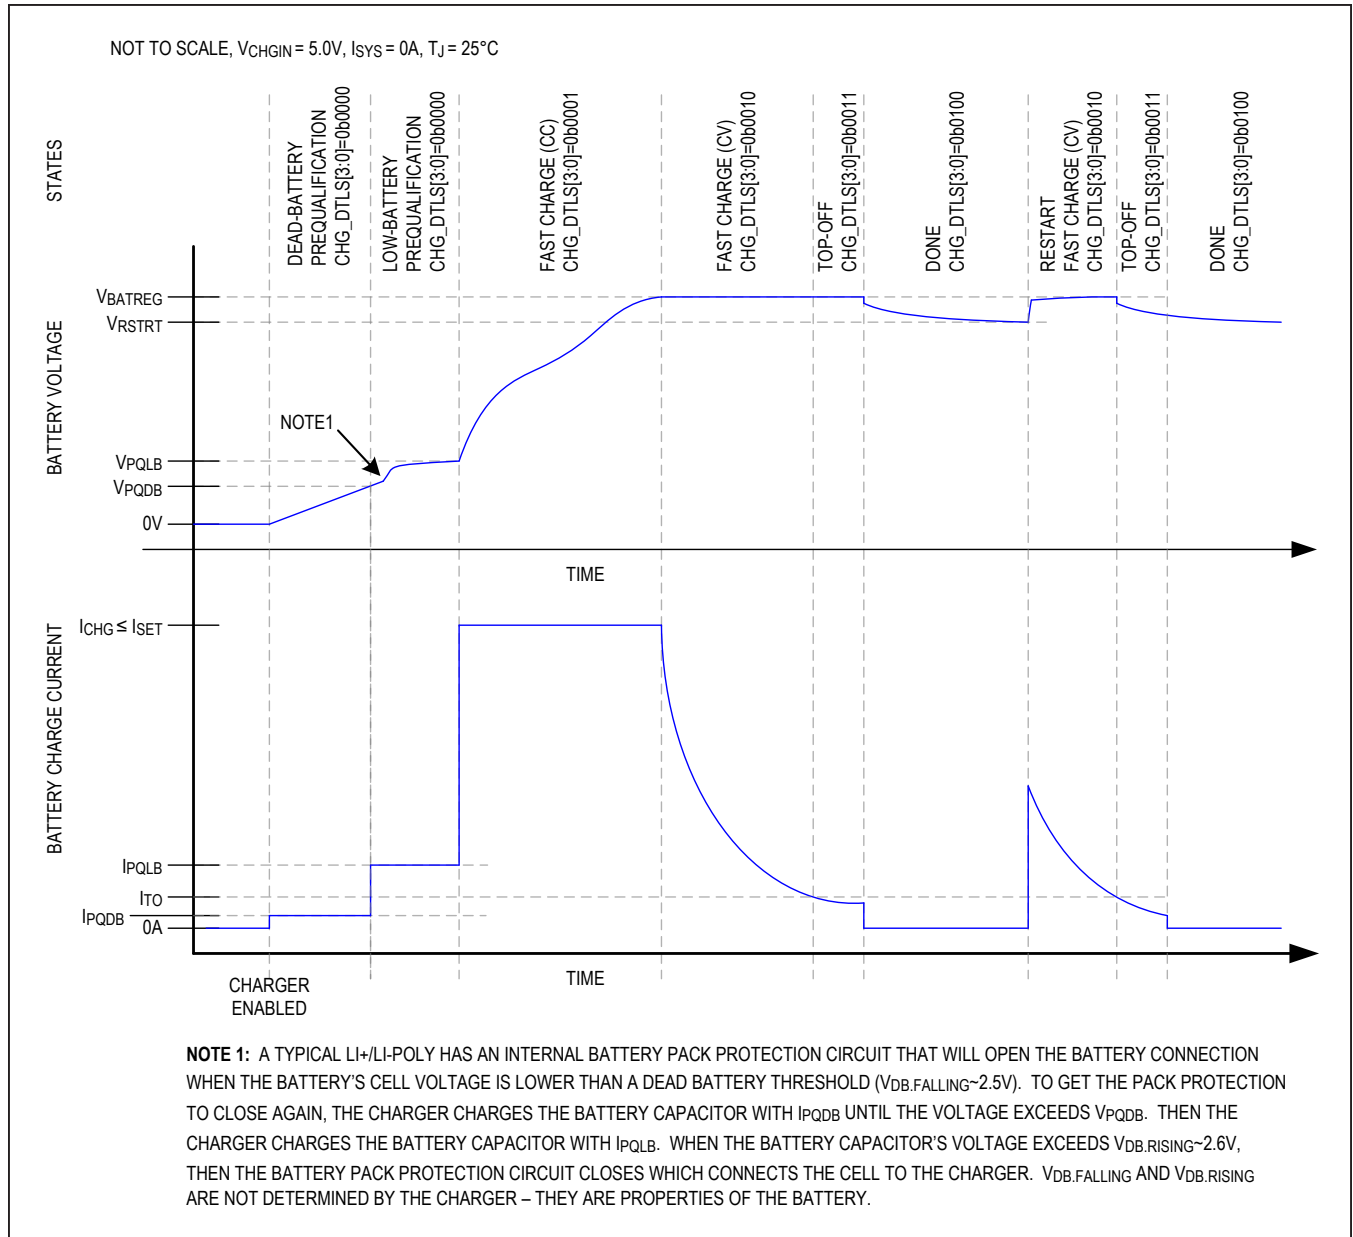
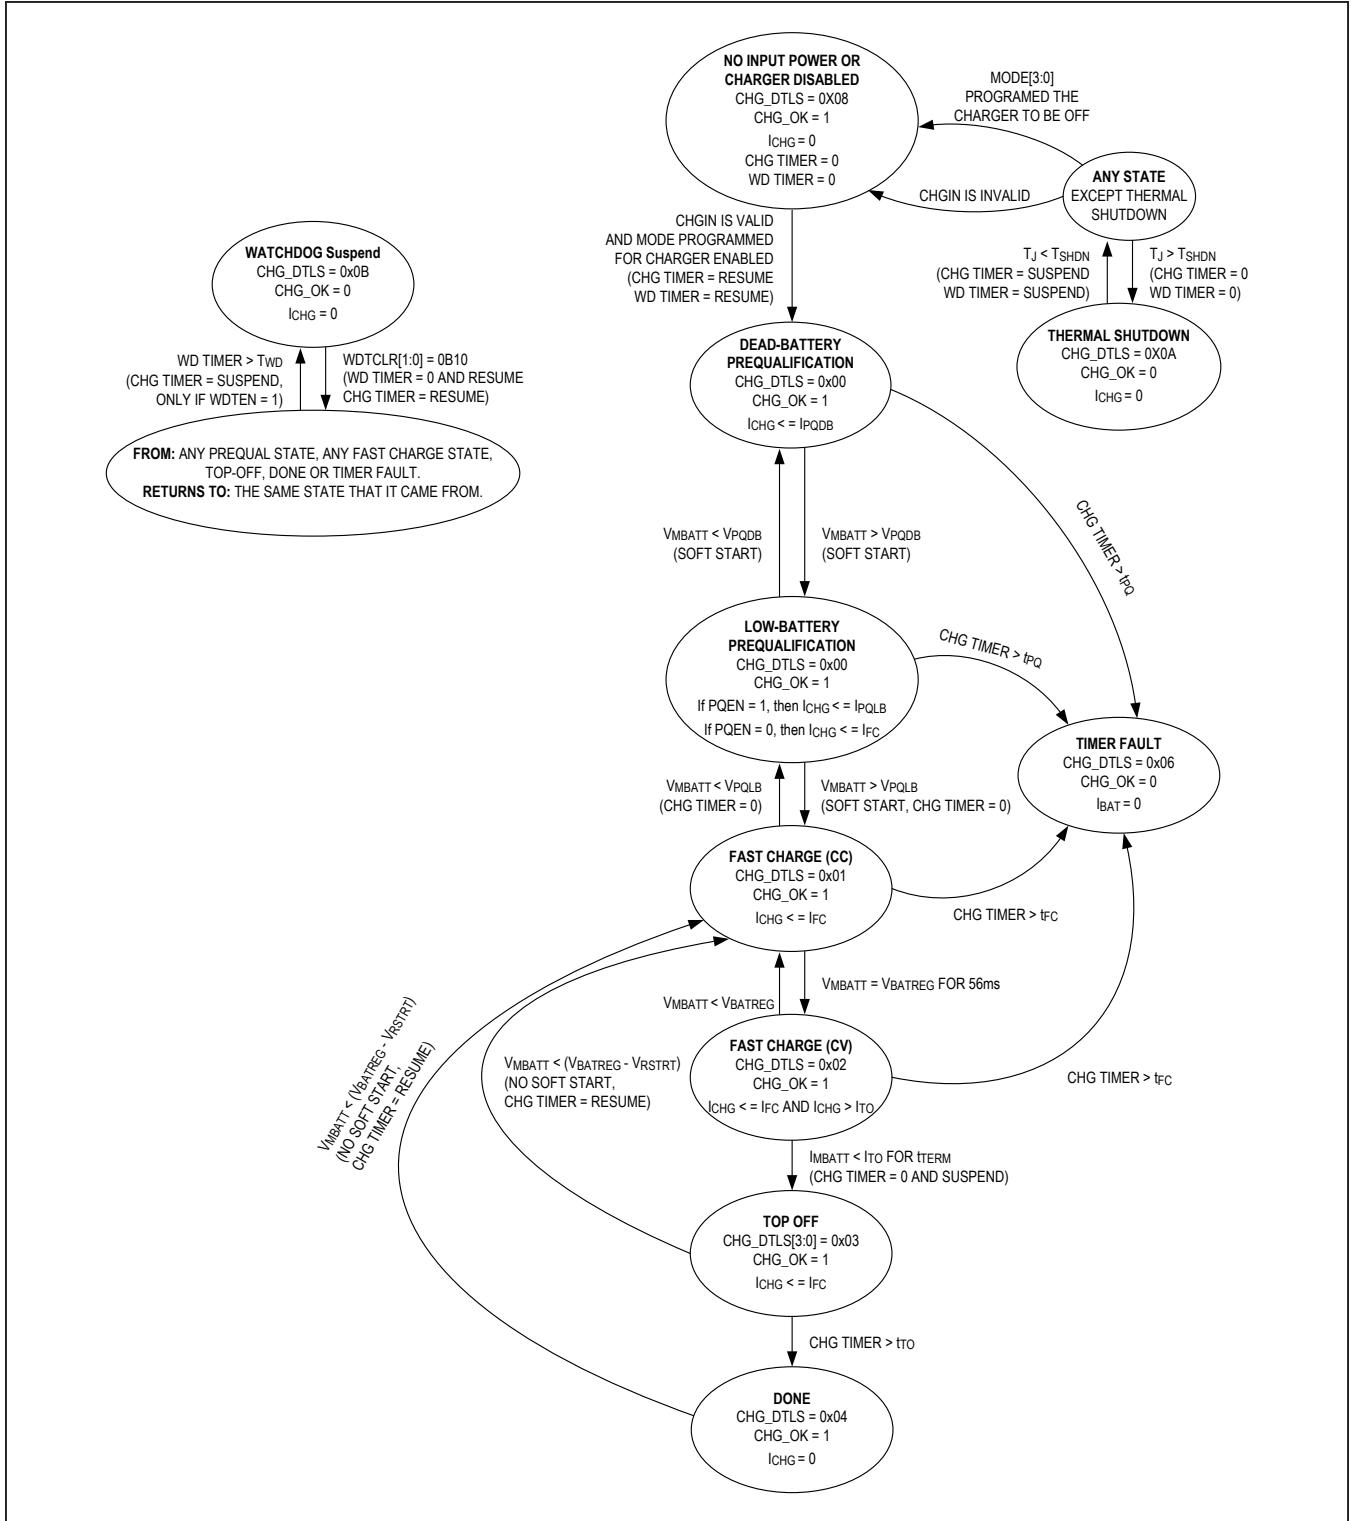

Figure 6. Li+/Li-Poly Charge Profile
Figure 7. Charger State Diagram
The MAX77818 utilizes several charging states to safely and quickly charge batteries as shown in Figure 6 and Figure 7. Figure 6 shows an exaggerated view of a Li+/Li-Poly battery progressing through the following charge states when there is no system load and the die and battery are close to room temperature: daed battery/low battery prequalification → fast-charge → top-off → done.
From any state shown in Figure 7 except thermal shutdown, the no input power or charger disabled state is entered whenever the charger is programmed to be off or the charger input CHGIN is invalid. After being in this state for  $t_{SCIDG}$ , a CHG\_I interrupt is generated, CHG\_OK is set, and CHG\_DTLS[3:0] is set to 0x08.
As shown in Figure 7, the dead battery prequalification state occurs when the main battery voltage is less than  $V_{PQDB}$ . After being in this state for  $t_{SCIDG}$ , a CHG\_I interrupt is generated, CHG\_OK is set, and CHG\_DTLS[3:0] is set to 0x00. In the dead battery prequalification state, charge current into the battery is  $I_{PQDB}$ .
As shown in Figure 7, the fast-charge constant current (CC) state occurs when the main battery voltage is greater than the low battery prequalification threshold and less than the battery regulation threshold ( $V_{PQLB} < V_{BATT} < V_{BATREG}$ ). After being in the fast-charge CC state for  $t_{SCIDG}$ , a CHG\_I interrupt is generated, CHG\_OK is set and CHG\_DTLS[3:0] = 0x01.
As shown in Figure 7, the fast-charge constant voltage (CV) state occurs when the battery voltage rises to  $V_{BATREG}$  from the fast-charge CC state. After being in the fast-charge CV state for  $t_{SCIDG}$ , a CHG\_I interrupt is generated, CHG\_OK is set, and CHG\_DTLS[3:0] = 0x02.
In the fast-charge CV state, the battery charger maintains  $V_{BATREG}$  across the battery and the charge current is less than or equal to  $I_{FC}$ . As shown in Figure 6, charger current decreases exponentially in this state as the battery becomes fully charged.
As shown in Figure 7, the top-off state can only be entered from the fast-charge CV state when the charger current decreases below  $I_{TO}$  for  $t_{TERM}$ . After being in the top-off state for  $t_{SCIDG}$ , a  $CHG\_I$  interrupt is generated,  $CHG\_OK$  is set, and  $CHG\_DTLS[3:0] = 0x03$ . In the top-off state, the battery charger tries to maintain  $V_{BATREG}$  across the battery and typically the charge current is less than or equal to  $I_{TO}$ .
As shown in Figure 7, the battery charger enters its done state after the charger has been in the top-off state for  $t_{TO}$ . After being in this state for  $t_{SCIDG}$ , a  $CHG\_I$  interrupt is generated,  $CHG\_OK$  is cleared, and  $CHG\_DTLS[3:0] = 0x04$ .
The battery charger provides both a charge timer and a watchdog timer to ensure safe charging. As shown in Figure 7, the charge timer prevents the battery from charging indefinitely. The time that the charger is allowed to remain in each of its prequalification states is  $t_{PQ}$ . The time that the charger is allowed to remain in the fast-charge CC and CV states is  $t_{FC}$ , which is programmable with  $FCHGTIME$ . Finally, the time that the charger is in the top-off state is  $t_{TO}$ , which is programmable with  $TO\_TIME$ . Upon entering the timer-fault state, a  $CHG\_I$  interrupt is generated without a delay,  $CHG\_OK$  is cleared, and  $CHG\_DTLS = 0x06$ .
In the timer-fault state the charger is off. The charger can exit the timer-fault state by programming the charger to be off and then programming it to be on again through the  $MODE$  bits. Alternatively, the charger input can be removed and reinserted to exit the timer-fault state. See the any state bubble in the upper right of Figure 7.
The battery charger provides both a charge timer and a watchdog timer to ensure safe charging. As shown in Figure 7, the watchdog timer protects the battery from charging indefinitely in the event that the host hangs or otherwise cannot communicate correctly. The watchdog timer is disabled by default with  $WDTEN = 0$ . To use the watchdog timer feature, enable the feature by setting  $WDTEN$ . While enabled, the system controller must reset the watchdog timer within the timer period ( $t_{WD}$ ) for the charger to operate normally. Reset the watchdog timer by programming  $WDTCLR = 0x01$ .
As shown in Figure 7, the thermal-shutdown state occurs when the battery charger is in any state and the junction temperature ( $T_J$ ) exceeds the device's thermal-shutdown threshold ( $T_{SHDN}$ ). When  $T_J$  is close to  $T_{SHDN}$ , the charger has folded back the input current limit to 0A so the charger and inputs are effectively off. Upon entering this state,  $CHG\_I$  interrupt is generated without a delay,  $CHG\_OK$  is cleared, and  $CHG\_DTLS[3:0] = 0x0A$ .